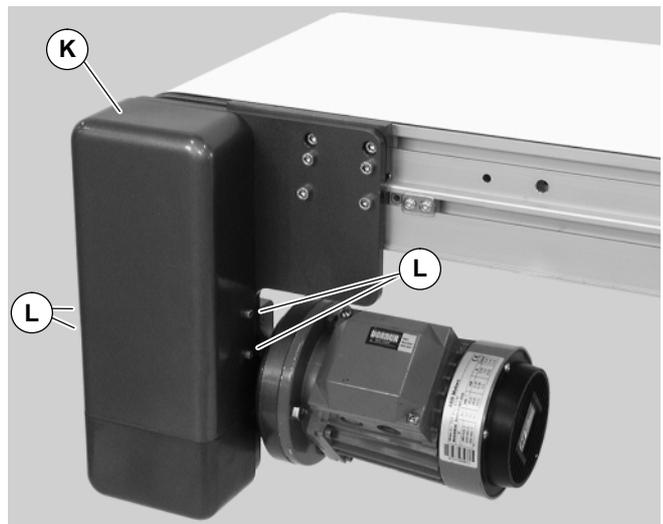

Figure 11
- Install cover (K of Figure 11) with four (4) screws (L). Tighten screws to 4 Nm.
1. Remove four (4) screws (L of Figure 11) and remove cover (K).
4. Install cover (K of Figure 11) with four (4) screws (L). Tighten screws to 4 Nm.
6. Install cover (K of Figure 11) with four (4) screws (L). Tighten screws to 4 Nm.